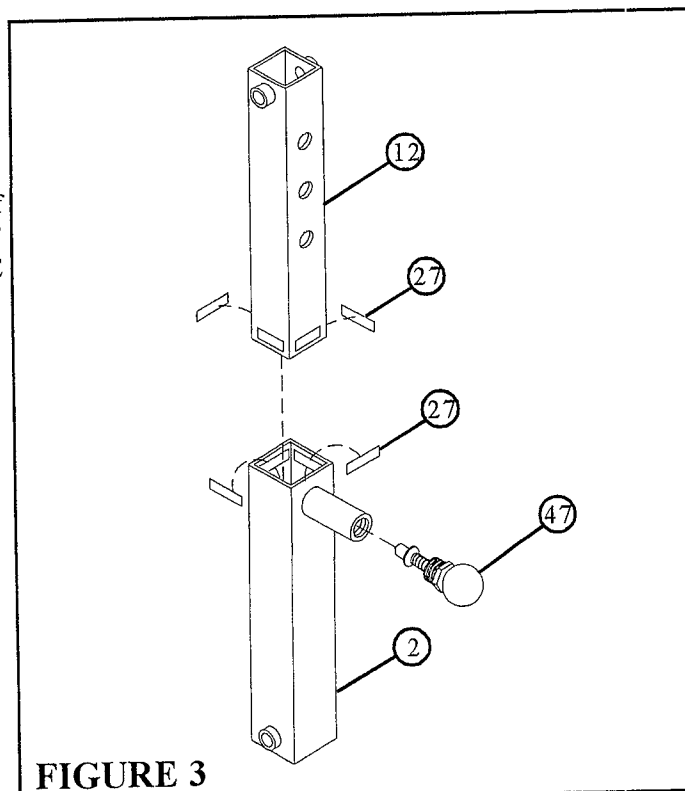

FIGURE 3
- Attach four 1-1/2 X 3/4" PARAGLIDE STRIPS (27) to the end of the PLATFORM ADJUSTMENT (12), and four 1-1/2 X 3/4" PARAGLIDE STRIPS (27) to the end of the PLATFORM SLEEVE as shown in FIGURE 3 using the following steps:
- Thoroughly clean all surfaces where the PARAGLIDE STRIPS (27) are to be attached.
- Remove the PARAGLIDE STRIPS (27) from the paper backing and firmly apply them to all shown surfaces.
- **SECURELY** Assemble one 1/2" DIA. SPRING PIN (47) to the SPRING PIN HOUSING, on the PLATFORM SLEEVE (2) as shown in FIGURE 3. (**!!! IMPORTANT !!! TIGHTEN THE NUT OF THE SPRING PIN SECURELY**)